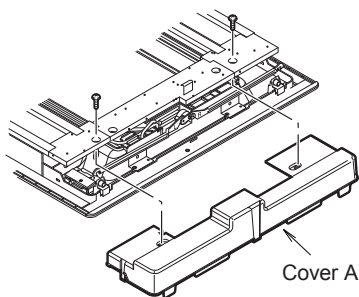

Fig. 3-2-7
- Remove the 2 screws. Then remove the cover A from the back of the panel. (Fig. 3-2-7)